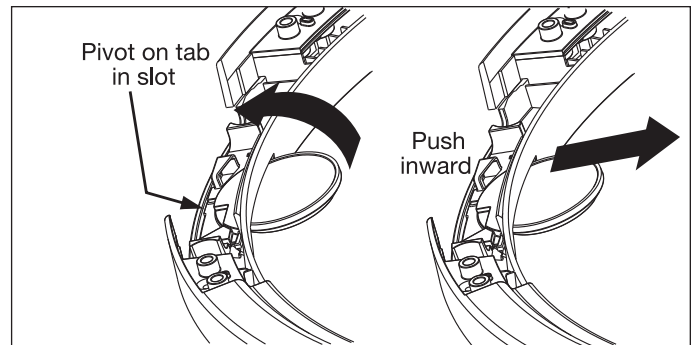

Figure 2-35.
2. Gently push the indicator toward the center of the lens to release the tab. (See Figure 2-35)
3. Rock the tab upward. (See Figure 2-35)